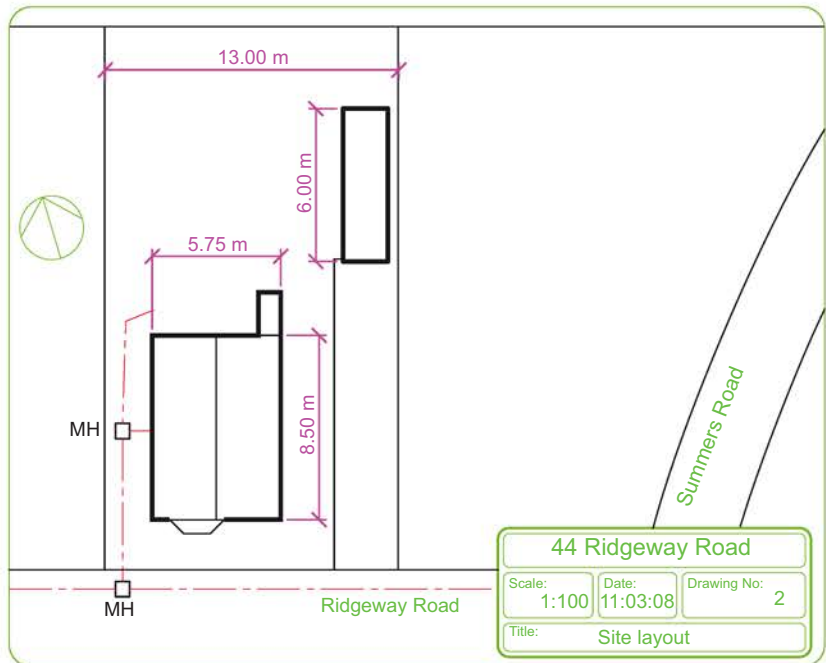

Fig. 17.2 A site layout plan
2. A site layout plan of the original house, drawn to a scale of 1:100 (Fig. 17.2).
Details of shapes and dimensions for these examples have been taken from the drawings of the building and its extension at 44 Ridgeway Road given in Figs 17.2–17.6.
Details of this first example are taken from Figs 17.2–17.4.